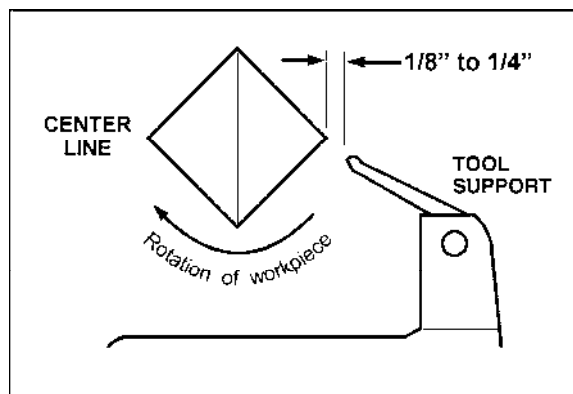

Figure 33
10. Move tool support into position. It should be parallel to the workpiece, just below the centerline and approximately 1/8" to 1/4" from the corners of the workpiece to be turned, as in Figure 33. Tighten support base to Lathe bed.